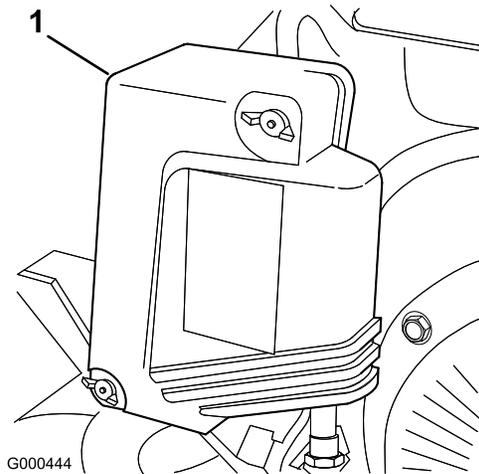

Figure 28
2. Remove wing nuts securing air cleaner cover to air cleaner and remove cover. Clean cover thoroughly (Figure 28).